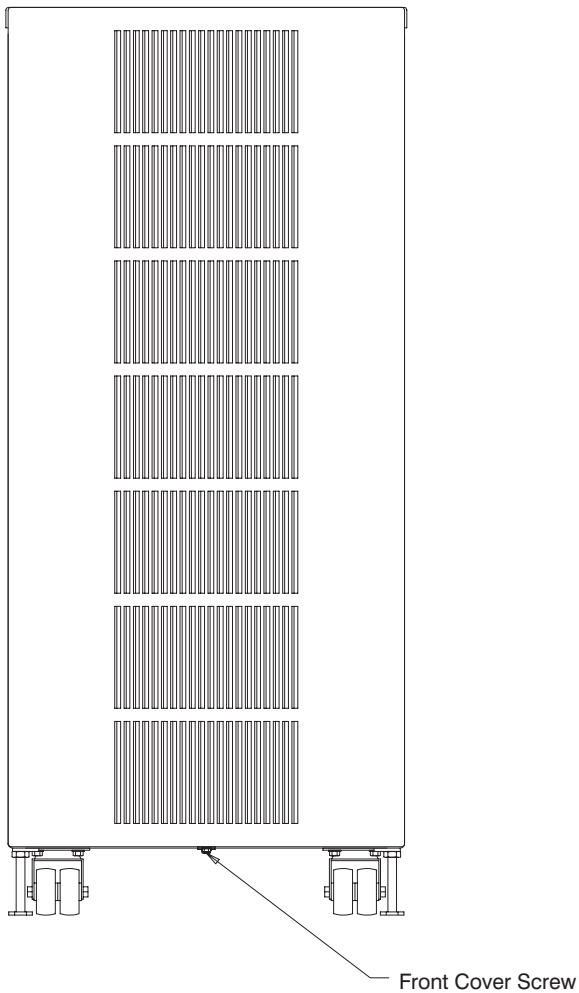

Figure 16. Battery Cabinet (Front View)
14. To remove the battery cabinet front cover, remove the #10 hex-head screw from front cover (see Figure 16).